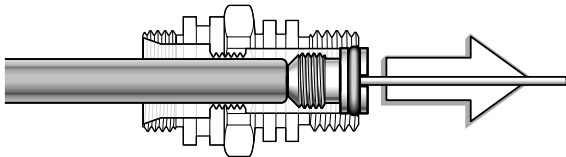

Fig. 1 - Crown Removal
9. When the crown has been unthreaded from the inlet fitting (12), carefully insert the pin of the extraction tool (P/N 109437) into the opposite end of the inlet fitting and through the center of the crown. Gently press the crown out onto a padded surface (see Fig. 1). Remove and discard the crown o-ring (20).